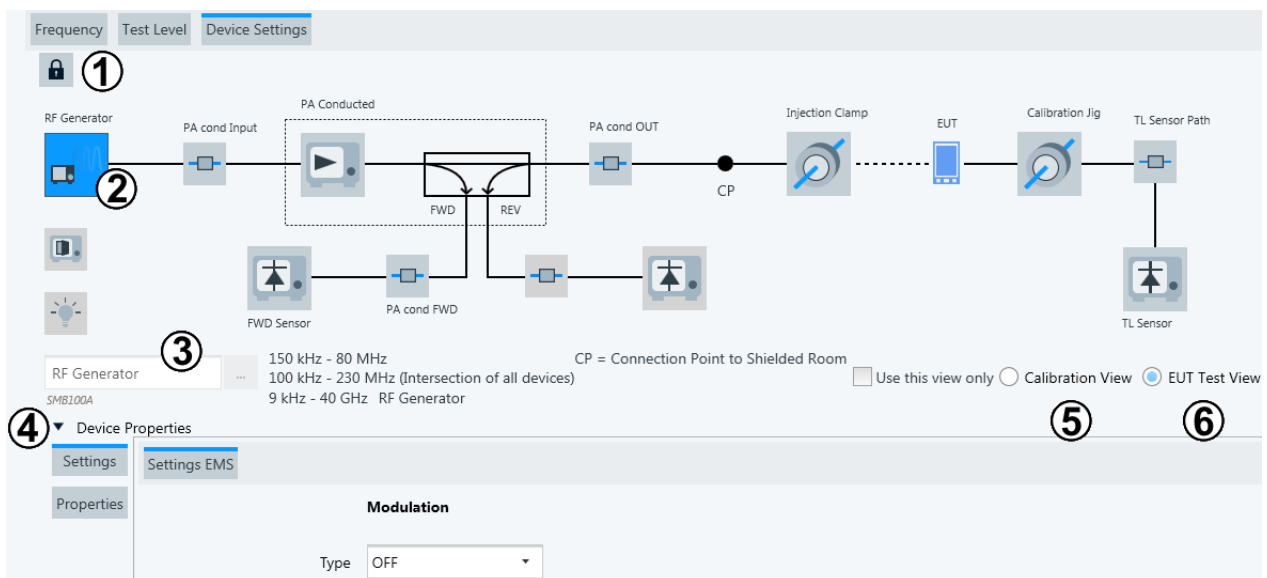

Figure 4-105: Example of a hardware setup diagram (type Bulk Current Injection) in an EMS test template
Note: Before you can proceed, first configure an EMS hardware setup and select it for one or more frequency ranges. The software then shows the hardware setup diagram (Figure 4-105) specified in this hardware setup.
To get access to the properties or settings of a device or signal path, click its icon in the hardware setup diagram, for example the generator icon (labeled (2) in Figure 4-105).
This field, labeled (3) in Figure 4-105, displays the name of the device selected (highlighted) in the hardware setup diagram.
Click the "Calibration View" button, labeled (5) in Figure 4-105, to access the calibration version of the selected hardware setup diagram.
Click the "EUT Test View" button, labeled (6) in Figure 4-105, to access the EUT test version of the selected hardware setup diagram.
Specifies the properties of the lab instrument that is selected in the hardware setup diagram. In Figure 4-105, the selected item is the device icon (2) that is highlighted in blue.